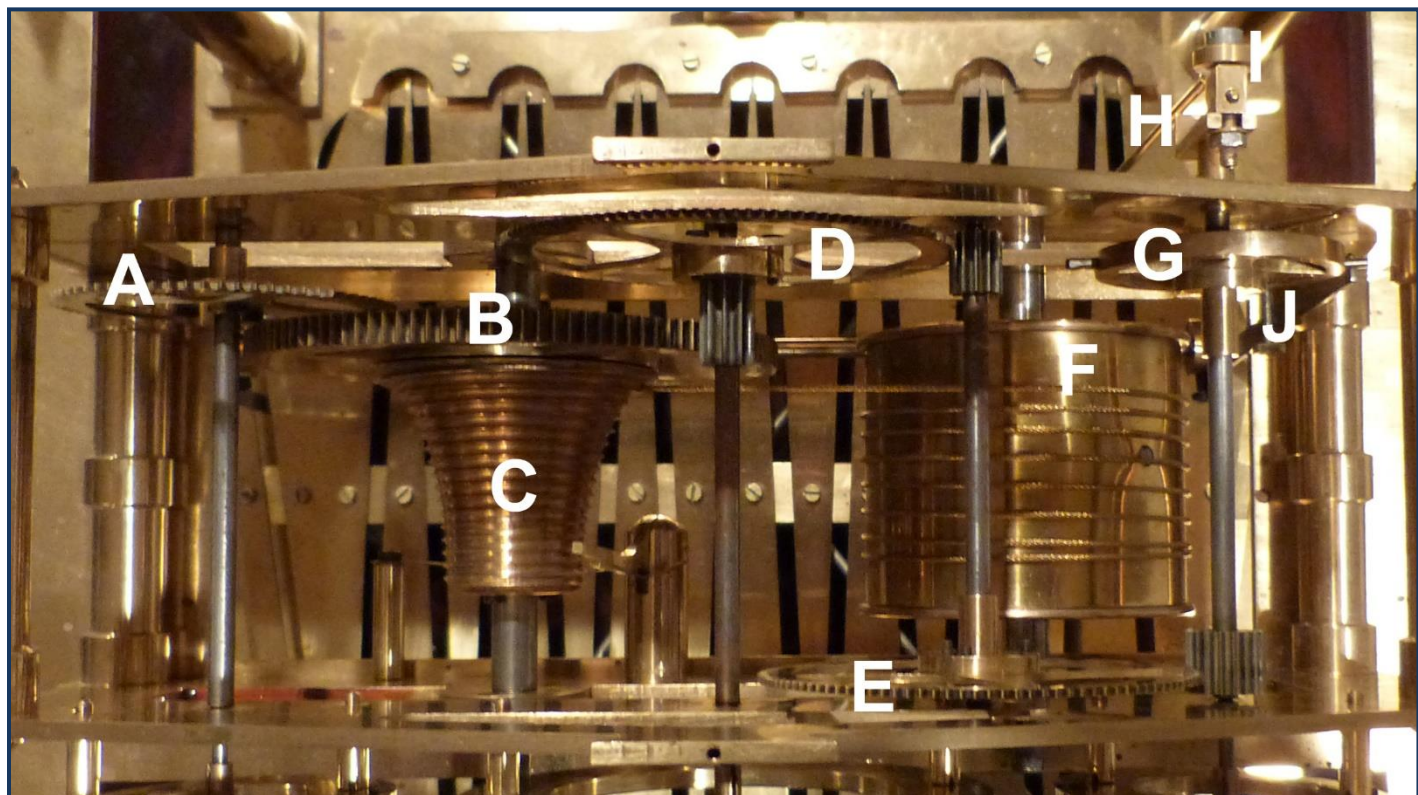

Figure 4 – Top view of Congreve Movement
As one can see in Figure 4, much of the movement is typical to pendulum or balance wheel clocks. There is a spring barrel (F) which is connected to a fusee (C). Attached to the fusee is the great wheel (B). The fusee/great wheel assembly drives the hour wheel (A) and the center pinion. The center wheel (D) connects to the third wheel (E) which ultimately drives the detent wheel (G). The detent wheel has two pins 180° apart. One pin rests on the detent lever (J).